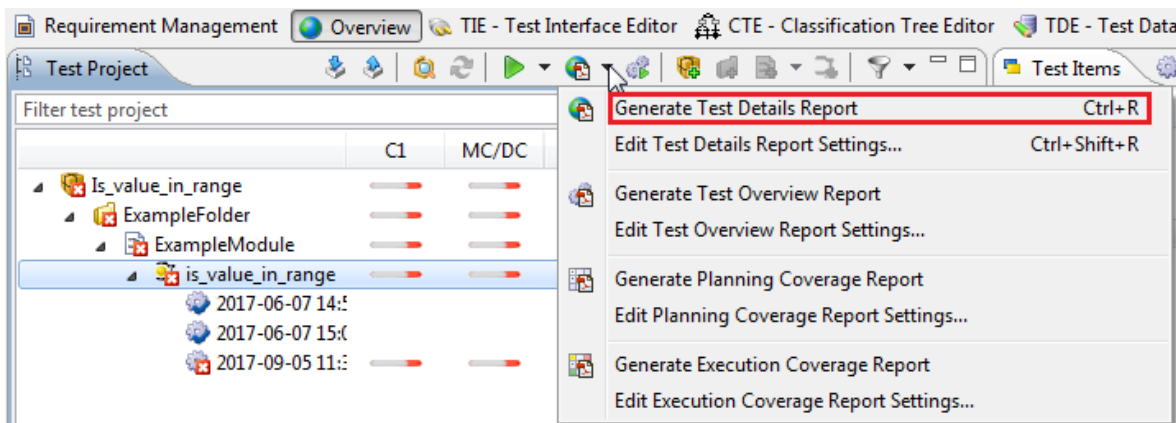

Figure 5.39: Generating a Test Details Report
- Generate a test details report to review the results on test object level: Click on the arrow next to the Generate Report icon  (see figure 5.39).